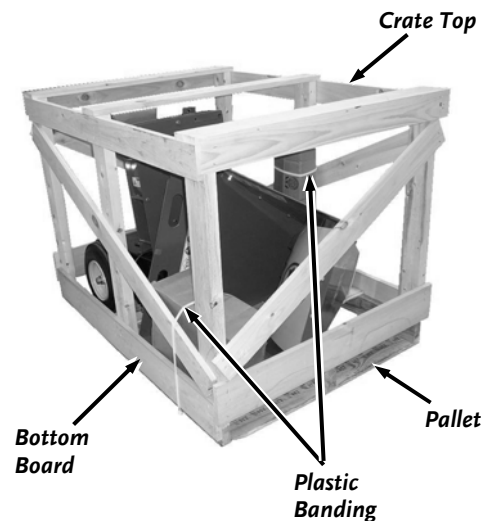

Figure 5
1. Cut the Plastic Banding that is securing the Parts Box and any Accessories that may be strapped to the Crate (*Figure 5*).